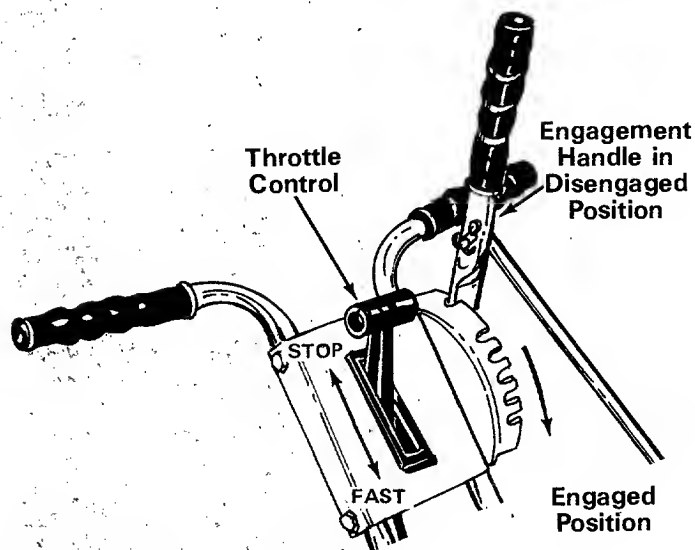
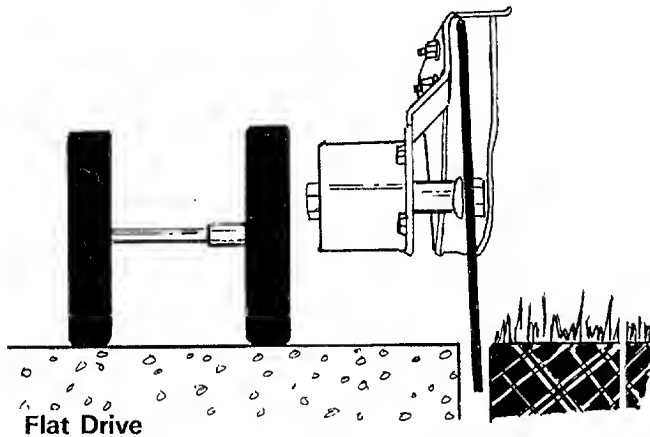

FIGURE 12
FIGURE 16
The throttle control lever is located on the handle panel. It regulates the engine speed and stops the engine. See figure 12.
The engagement handle controls the clutching and declutching of the belt. To declutch, the handle is pulled back toward the operator. The farther forward the handle is pushed, the deeper the cut. To move the engagement handle, first move it to the left so the handle is out of the notch. See figure 12.
3. Move the engagement handle (depth control) back as far as it will go and place in the last notch. See figure 12.
1. Set the adjustment lever (refer to figure 12 in the second notch at the top to edge vertically. See figure 16.